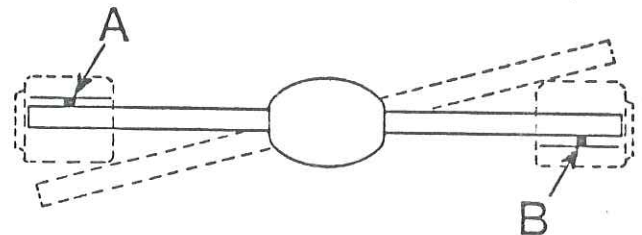

Figure 12
2. Each blade tip must strike the bumper in each jaw simultaneously when closing. (Figure 12)